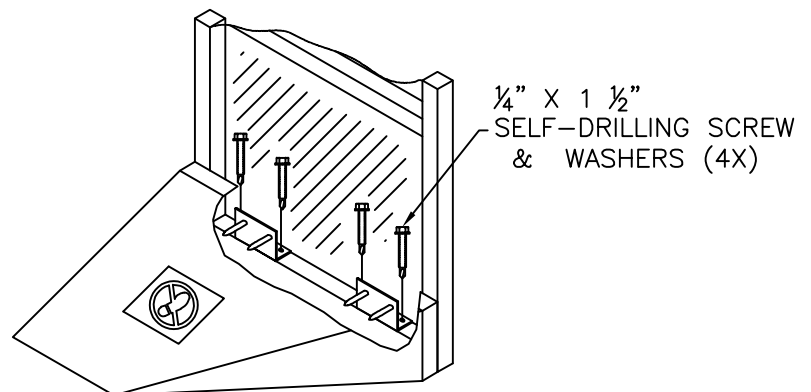

FIG. 22
- Place Bottom Pad along bottom of Vertical Frame (**Figure 22**).